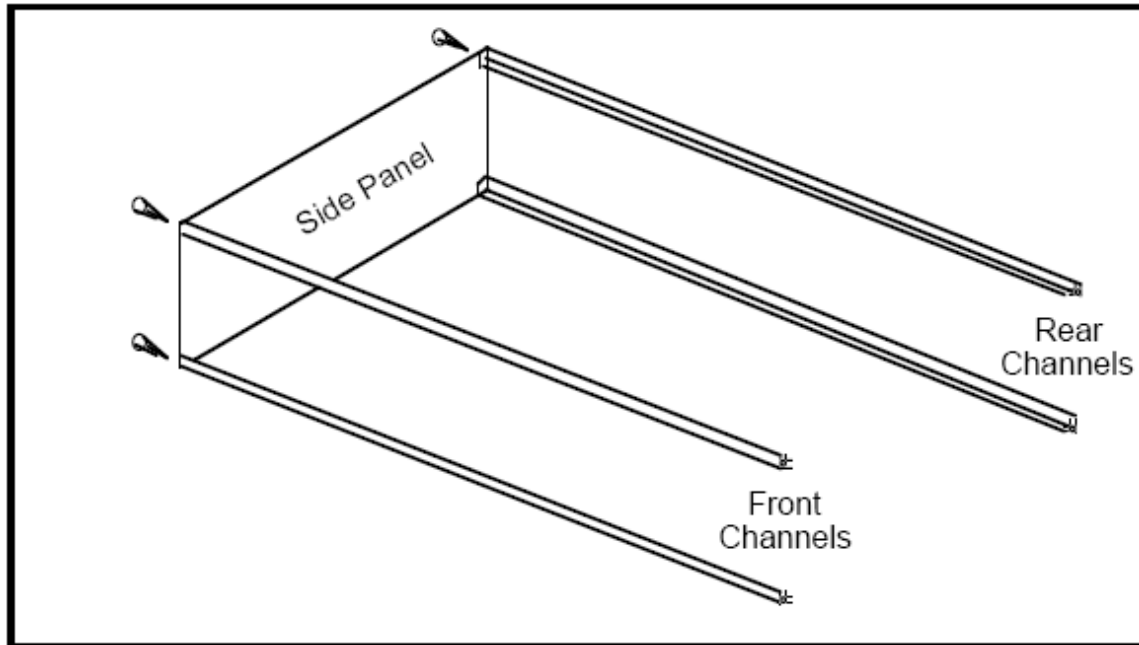

Figure 12. Partial assembly of the enclosure.
1. ☐ Partially assemble the enclosure using one end panel, the four extruded channel pieces, and four screws. Tighten screws just enough to maintain shape. See Figure 12.